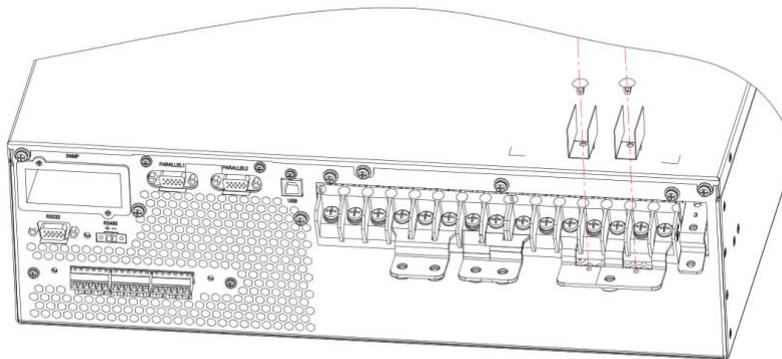
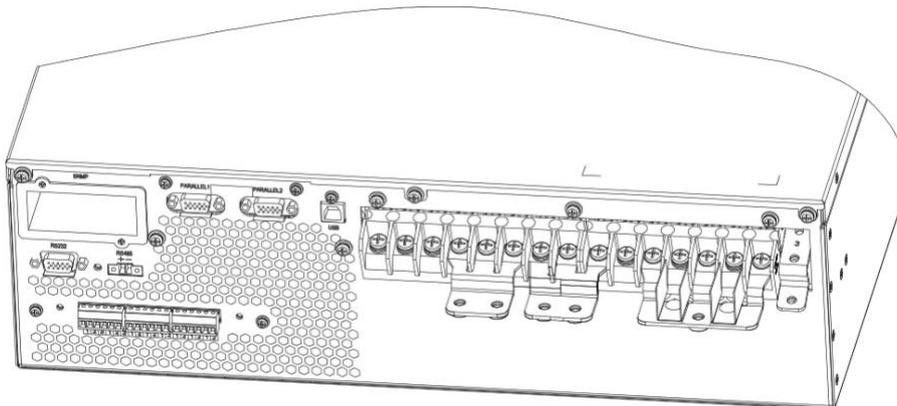

Fig. 2-20 Fix insulation film
Fig. 2-21 Graphic of insulation film fixed
3. Fix the insulating film (accessory) to the No.5 copper bar as shown in Figure 2-20, and fixed in the corresponding position with the plastic rivet, as shown in figure 2-21.